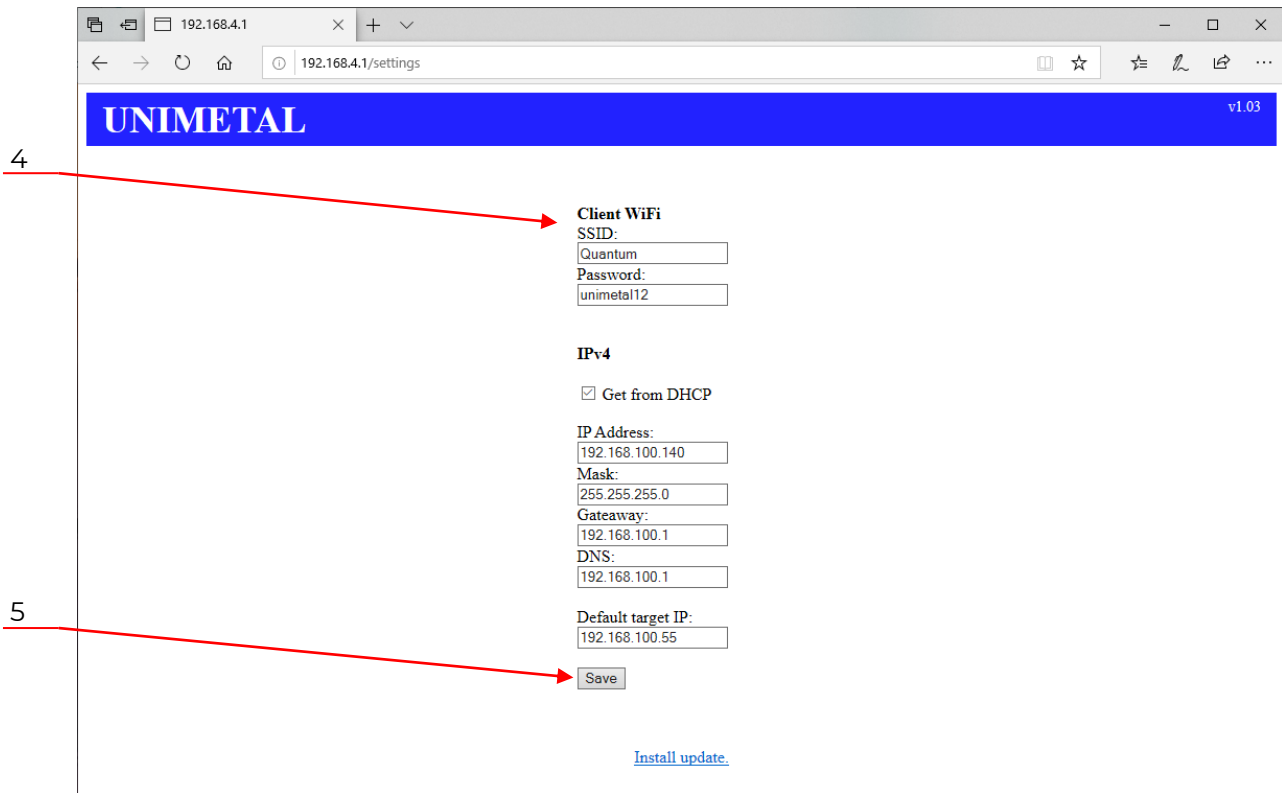

Fig. 8 – Settings tab
- (4) If previous steps was done correct, the tab like in Fig. 8 is displayed. It allows for enter the WI-Fi network settings, and IP addresses. The settings depends on configuration of User’s network. To confirm the entered data click „Save” (5).